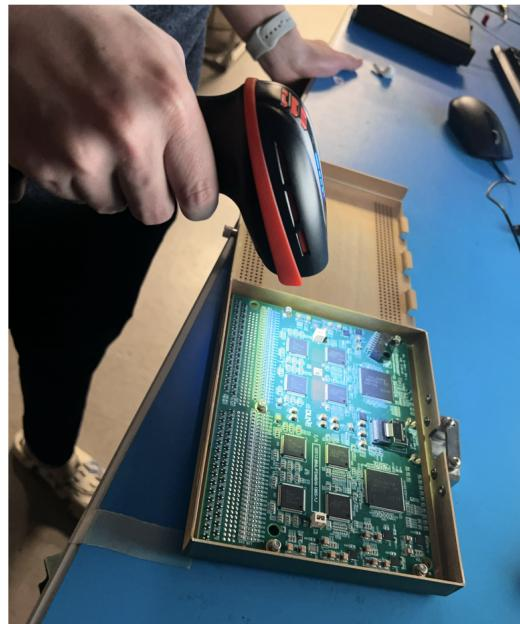

Figure 26: Scanning an FEMB's DM code.
3. Scan the FEMBs QR/DM code (Figure 26). When a code is scanned, you will hear a *beep*, followed by the displaying of the contents of the code on the terminal.